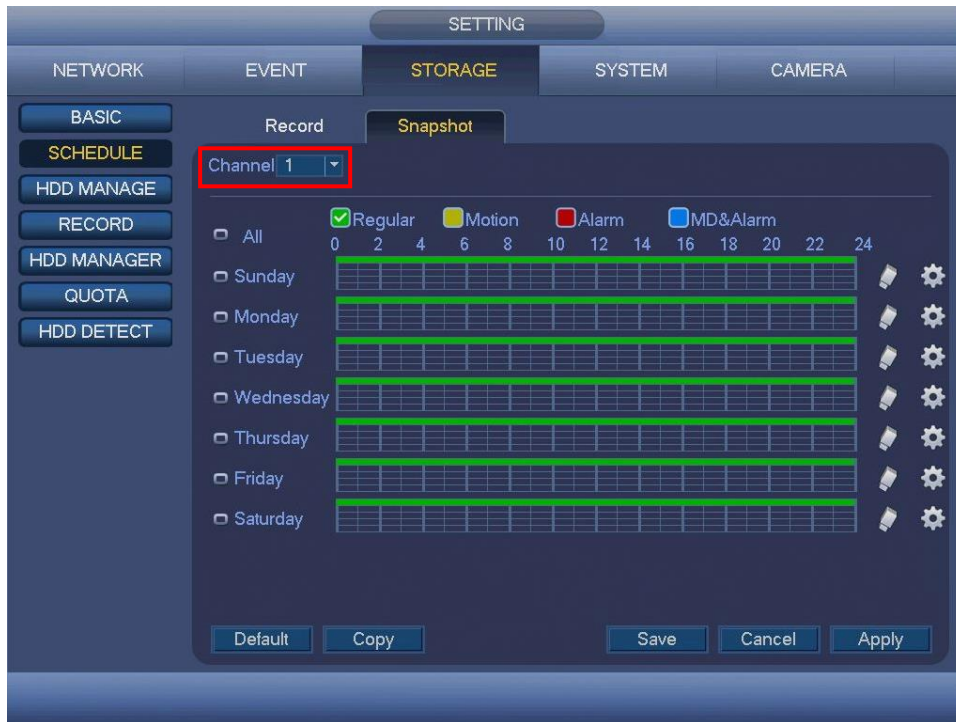

Figure 2-31
- In main menu, from SETTING -> STORAGE -> SCHEDULE -> Snapshot interface, please enable snapshot function. See Figure 2-31.